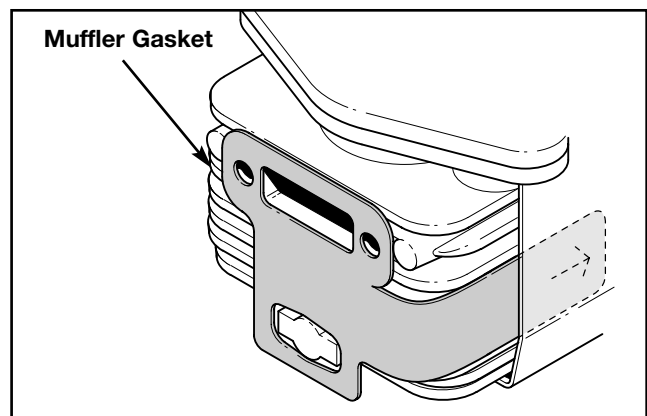

Fig. 38
1. Install a new gasket\*. Make sure the arrow stamped into the gasket is to your right. Tuck the tab (with the arrow) between the cylinder and plastic shroud (Fig. 38).